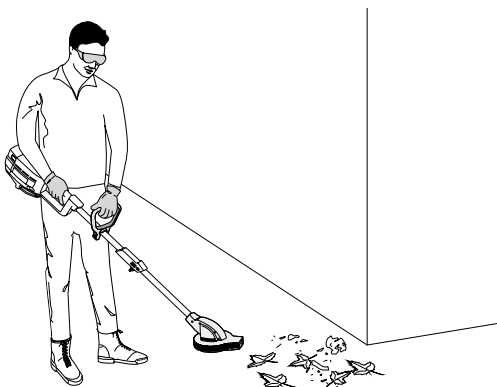

Fig. 15
Hold the blower as shown in Figs. 15, 16, and 17 and sweep from side to side with the nozzle several inches above the ground or floor. Slowly advance, keeping the accumulated pile of debris in front of you.
1. Use around buildings and for normal cleaning (Fig. 15)